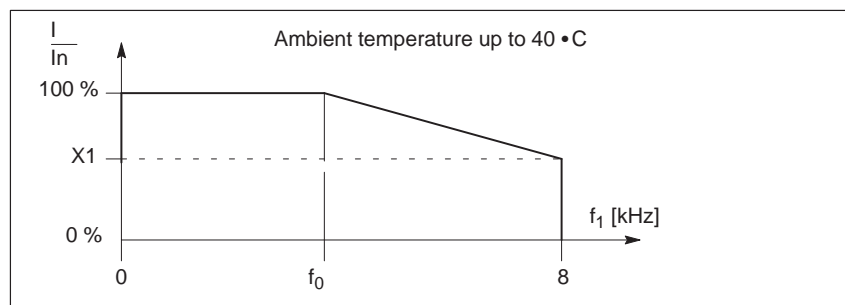

Figure 4-2
1) X1=current reduction factor, current reduction from the inverter clock frequency f_0 of the power transistors (refer to Fig.4-2)
- 1) X1=current reduction factor, current reduction from the inverter clock frequency f_0 of the power transistors (refer to Fig.4-2)
- 1) $X1$ = current reduction factor, current reduction from the inverter clock frequency f_0 of the power transistors (refer to Fig.4-2)